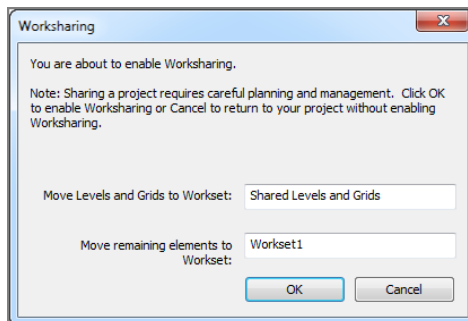

FIGURE 22.3: The Worksharing dialog box
3. A Worksharing dialog box welcomes you to the point of no return. Accept the default values—Shared Levels And Grids and Workset1—as shown in Figure 22.3, and click OK.